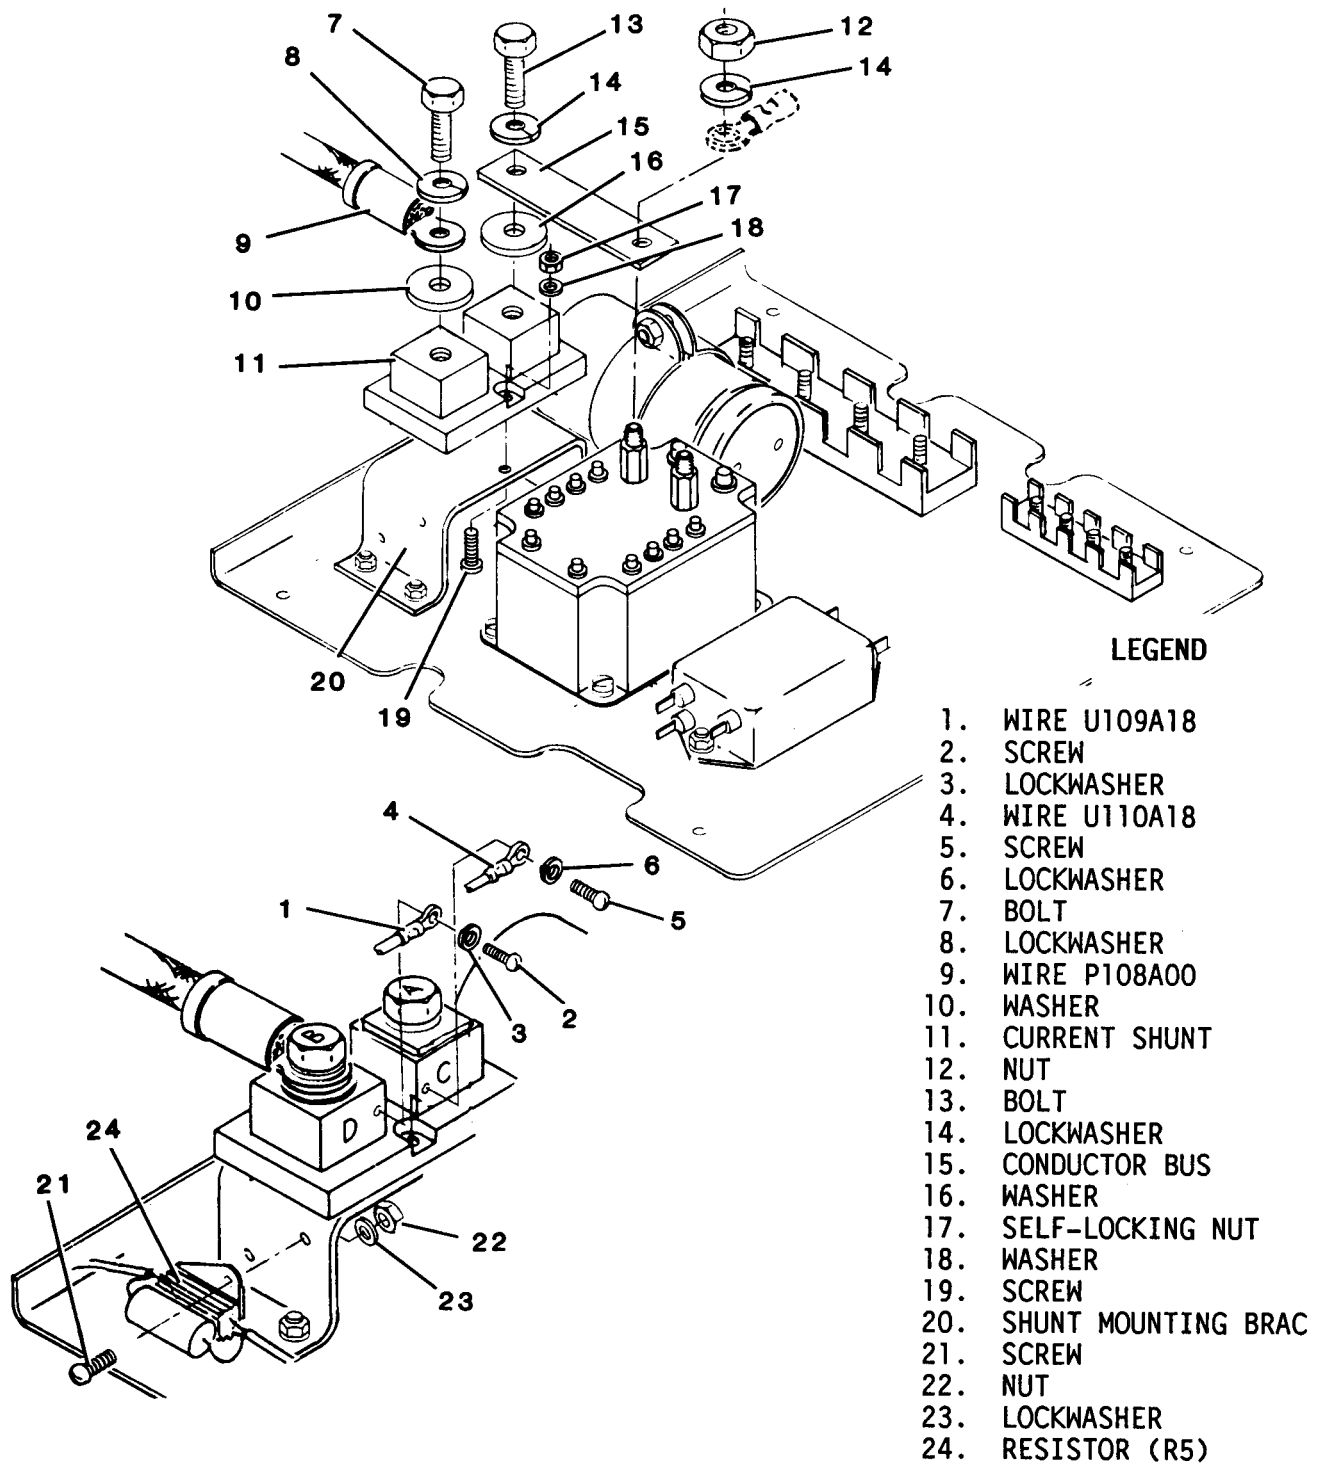

Figure 4-52. Current Shunt (1000 Amp)/Resistor (R5)
(2) Connect conductor bus (1) to current shunt (2).
(3) Connect wiring to contactor. Remove all tags.
(4) Install component mounting Panel (paragraph 4-82).
**4-84. CURRENT SHUNT (1000 AMP).** Maintenance of the 1000 amp current shunt (figure 4-52) is limited to inspection and replacement.
(2) Disconnect battery cable plug connector.
(3) Unlatch and open inlet air housing access door. Secure in open position.
(4) Loosen turnlock fasteners and remove engine housing access cover.
(5) Remove air baffle from inlet air housing (paragraph 4-22).
(6) Ensure that current shunt (9, figure 4-52) is securely mounted. Tighten any loose connections.
(7) Check input and output lugs for discoloration. Discoloration could indicate a loosening of connections while the generator set is operating. Tighten any loose connections.
(8) If current shunt is dirty, clean with compressed air or with an electrical grade solvent.
(9) Check current shunt for damage. Replace shunt if physically damaged.
(10) Install air baffle (paragraph 4-22).
(11) Install engine housing access cover and secure with turnlock fasteners.
(12) Close and securely latch inlet air housing access door.
(13) Connect battery cable plug connector.
(14) Stow power cable on cable support.
(1) Remove component mounting panel (paragraph 4-82).
(2) Tag wire U109A18 (1, figure 4-52). Remove screw (2) and lockwasher (3) to disconnect wire from terminal D.
(3) Tag wire U110A18 (4). Remove screw (5) and lockwasher (6) to disconnect wire from terminal C.
(4) Tag wire P108A00 (9). Remove bolt (7), lockwasher (8), wire P108A00 (9), and washer (10) from current shunt (11).
4-88. RESISTOR (R5). Maintenance of resistor R5 (24, figure 4-52) is limited to replacement.